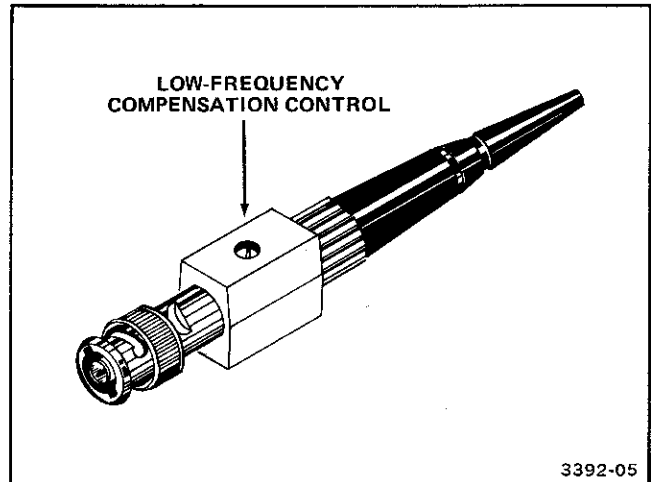

Figure 4. Low frequency adjustment location.
5. ADJUST—Probe Low-Frequency Compensation control for the best flat top display on the waveforms by using a low-capacitance adjustment tool (see Figure 4). Typical oscilloscope waveform displays for the range of the Compensation control are shown in Figure 5, with the correct setting shown in the middle illustration.